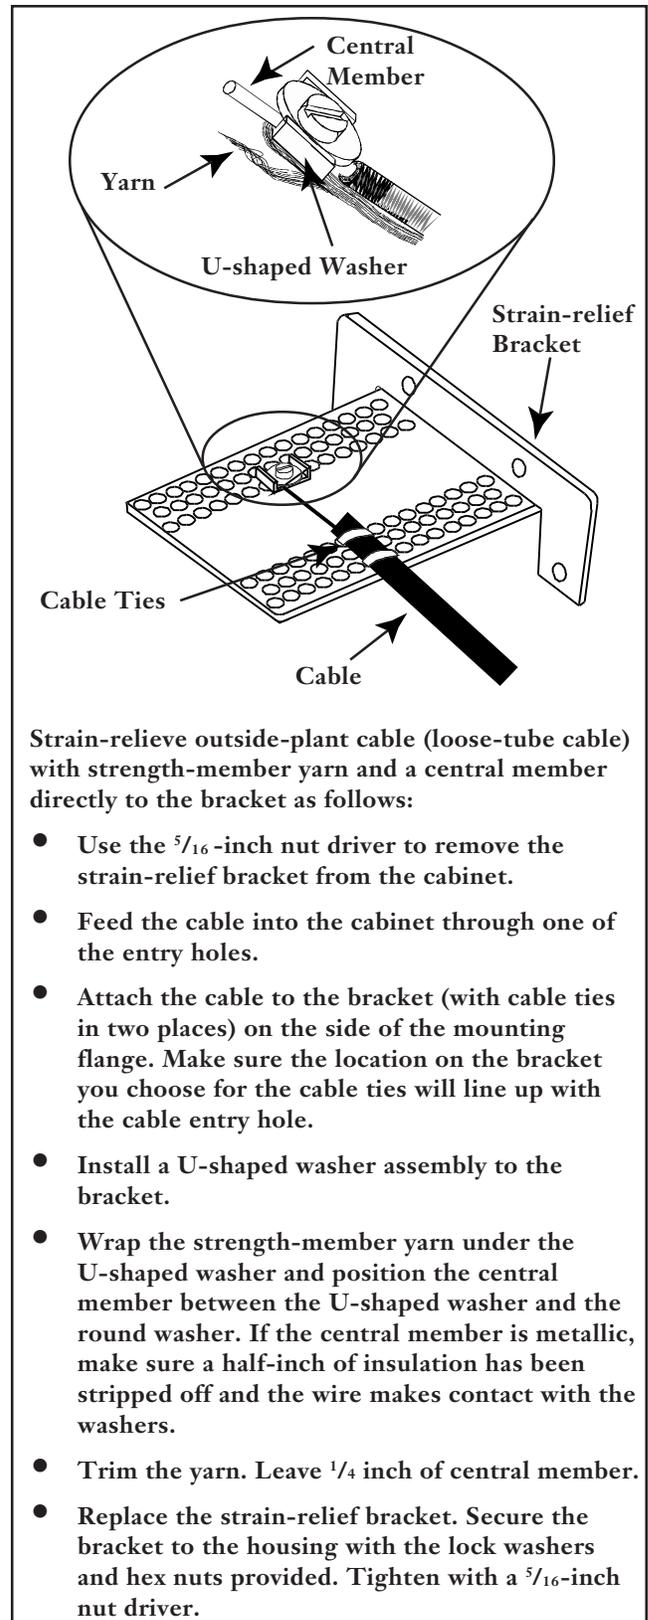

Figure 5
**6.3** Strain-relieve the cables to the removable strain-relief bracket shown in Figure 5. The removable bracket accommodates the strain-relief hardware and cable ties included with the unit. The removable bracket design permits convenient anchoring of all cable types.